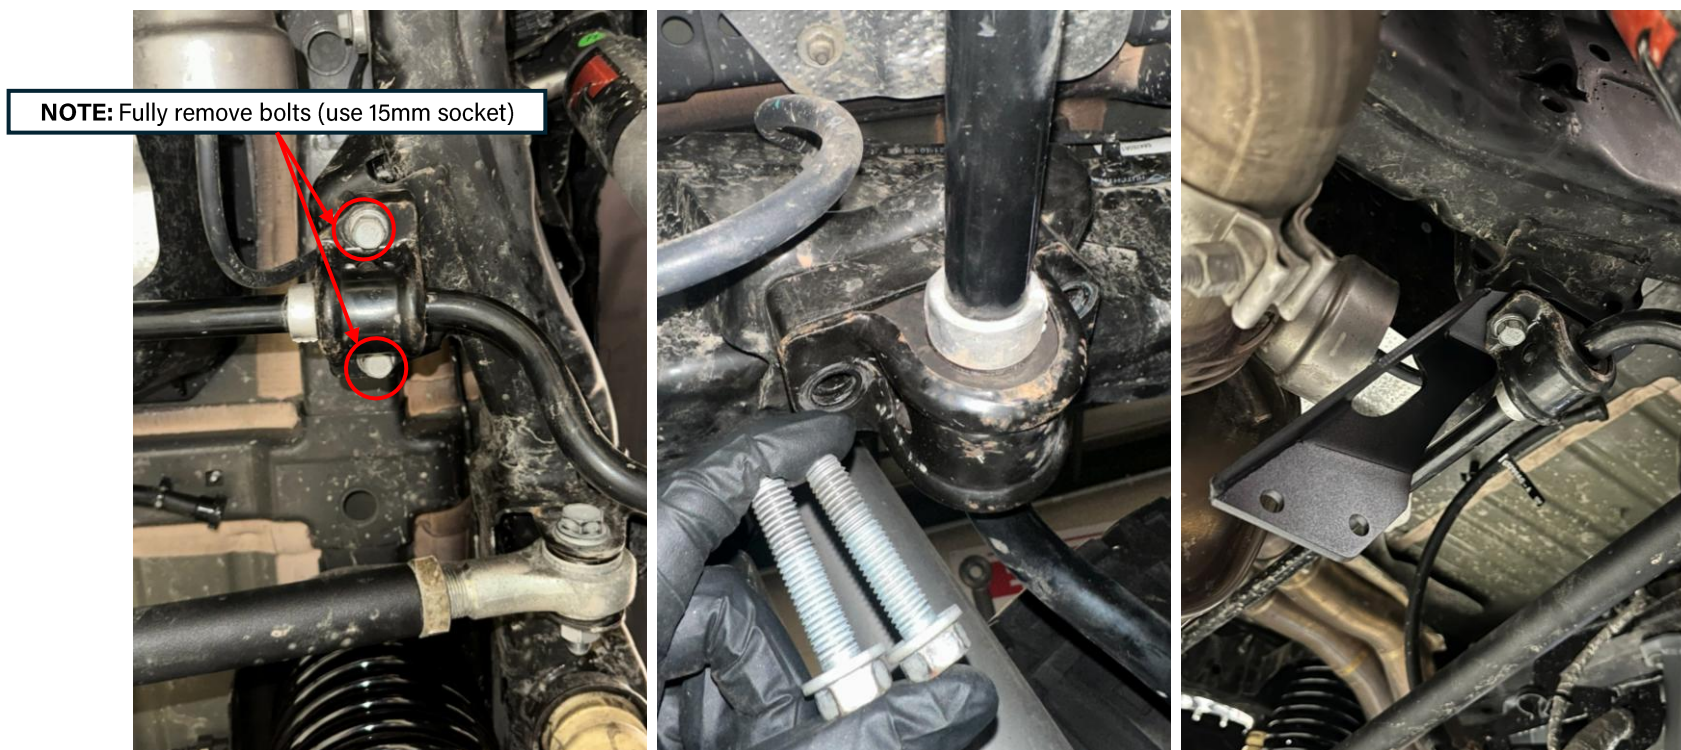

Figure 5: Passenger's side rear support bracket loosely installed
4. Repeat Step 3 on the passenger side. The rear support brackets **are** side-specific. When installed properly, the passenger's side bracket will fall to the **inside** of the sway bar bracket bushing, as shown below in Figure 5.